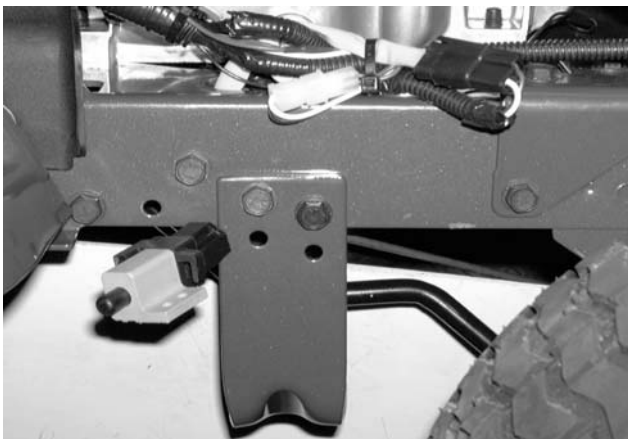

Figure 9-67
2. Pull the wiring harness connector and brake switch forward and slide it toward the right frame rail. See Figures 9-67 and 9-68.